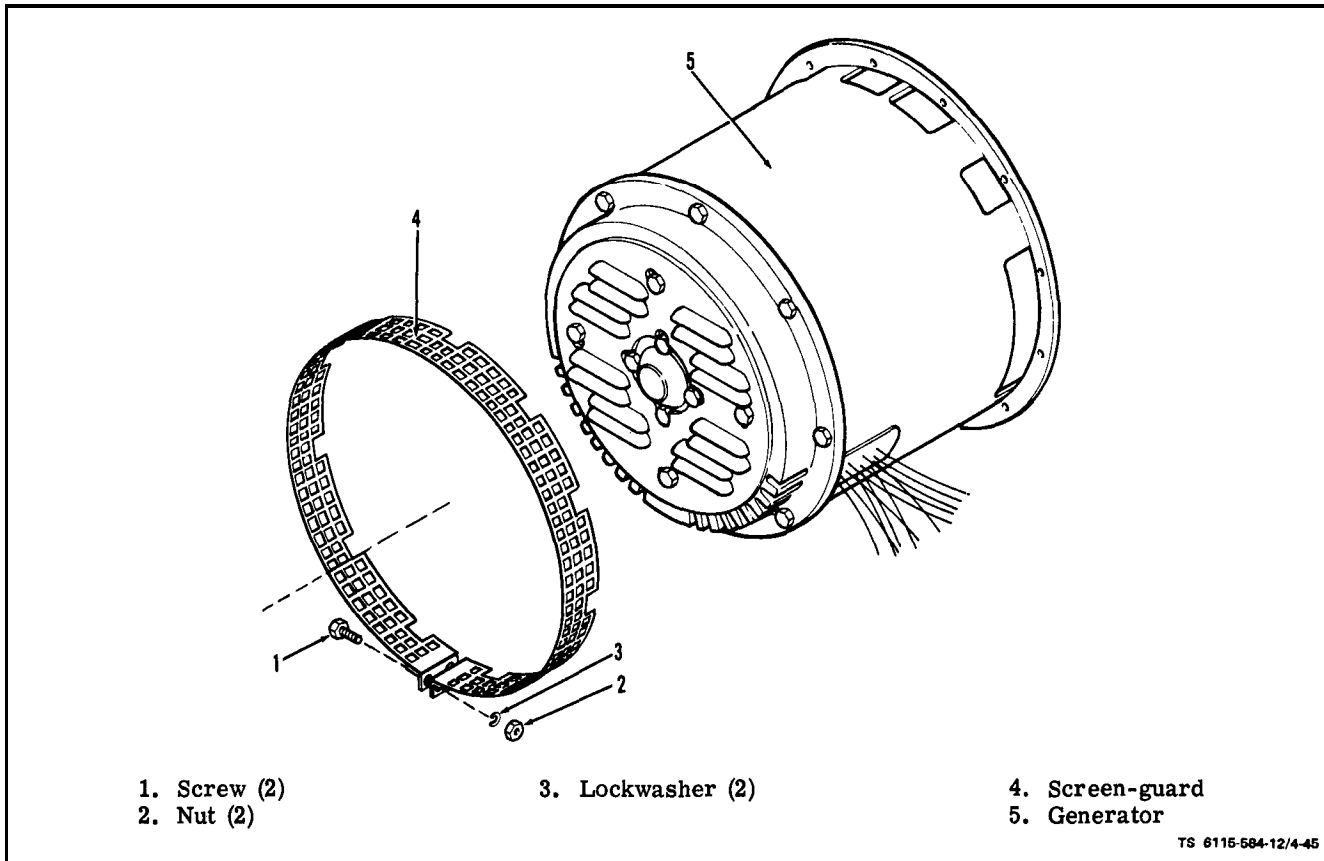

Figure 4-45. Generator Screen-Guard
b. Remove (see figure 4-45), Remove two screws (1), lockwashers (3), and nuts (2) holding screen-guard (4) in place and remove screen-guard.
d. Install. Place serviceable screen-guard in position over openings in generator stator-housing assembly (5). Tighten screen-guard (4) in position with two screws (1), lockwashers (3) and nuts (2). On ASK equipped generators, install ASK cover assembly (para 5-3).